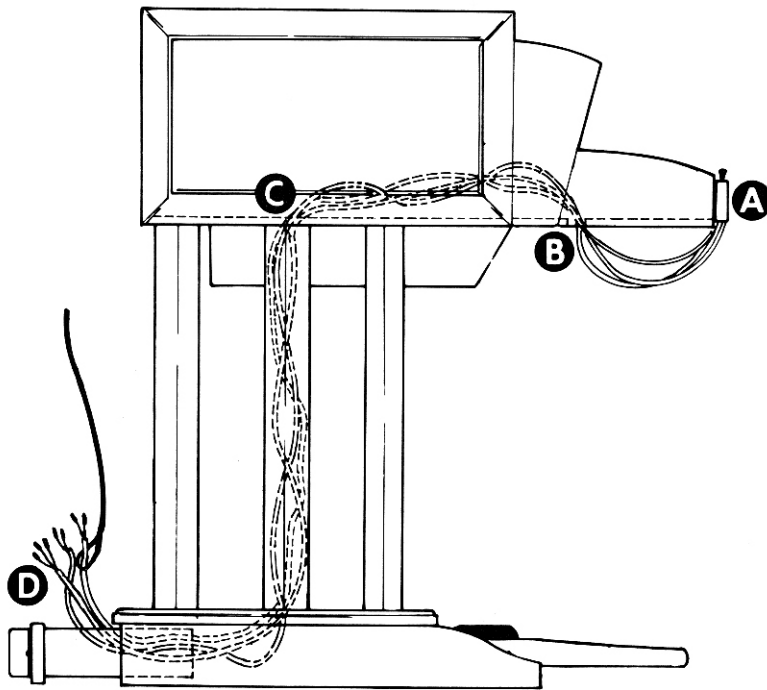

Fig. 1
2. Mount the multi-rank and tremolo controls to the wooden rail in front of the lower manual. (See "A" on Fig. 1.) Use the black oxide wood screws provided.
3. Drill a 1/2" hole in the underside of the lower manual, left hand side (as seen from front of organ). (See "B" on Fig. 1.) Route control cables through this hole.
4. Pass the wire provided in hardware package through the right hand hollow leg (as seen from rear of organ). (See "C" and "D" on Fig. 1.) Tie this wire to one of the three control cables and pull cable down through the leg into the drawer. Pull through enough cable to make it easy to work with. Repeat this operation until all three control cables are routed through the hollow leg.